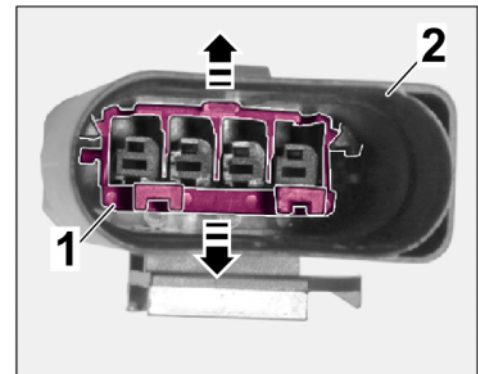

Figure 24
- 2.4.1 Unlocking the socket housing (4-pin, see parts list) (⇒ *Figure 24*).